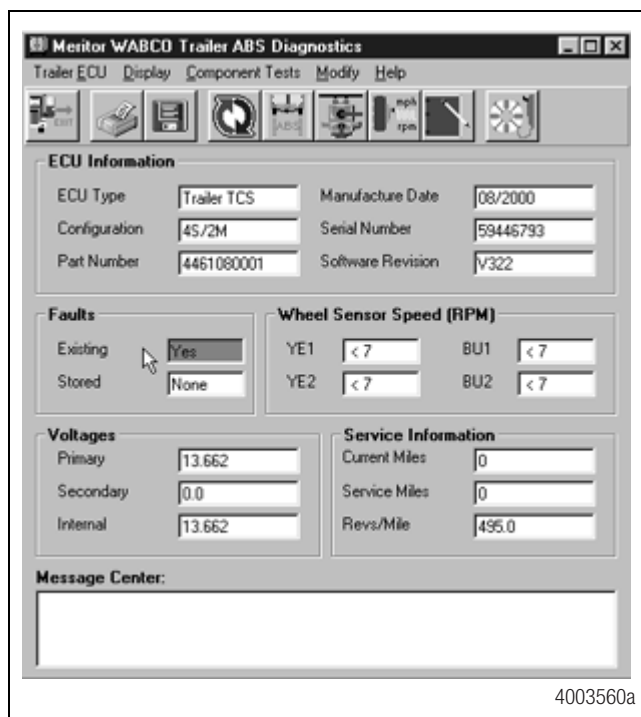

Figure 14
- Apply 12 volts DC to the blue wire (constant). Check the screen for the correct voltage (9.4 to 14 volts). Constant power voltage is displayed in the **Primary** field. Figure 14.
- Apply 12 volts DC to the red wire (stoplight power). Check the screen for the correct voltage (9.4 to 14 volts). Stoplight power voltage is displayed in the **Secondary** field. Figure 14.